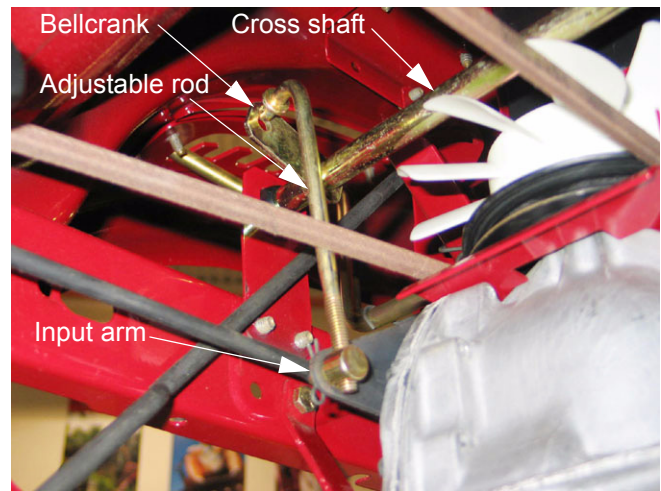

Figure 7.2
- 7.2. The lever rotates a cross-shaft and bellcrank. An adjustable rod connects the bellcrank to the input arm on the left side of the transaxle. See Figure 7.2.